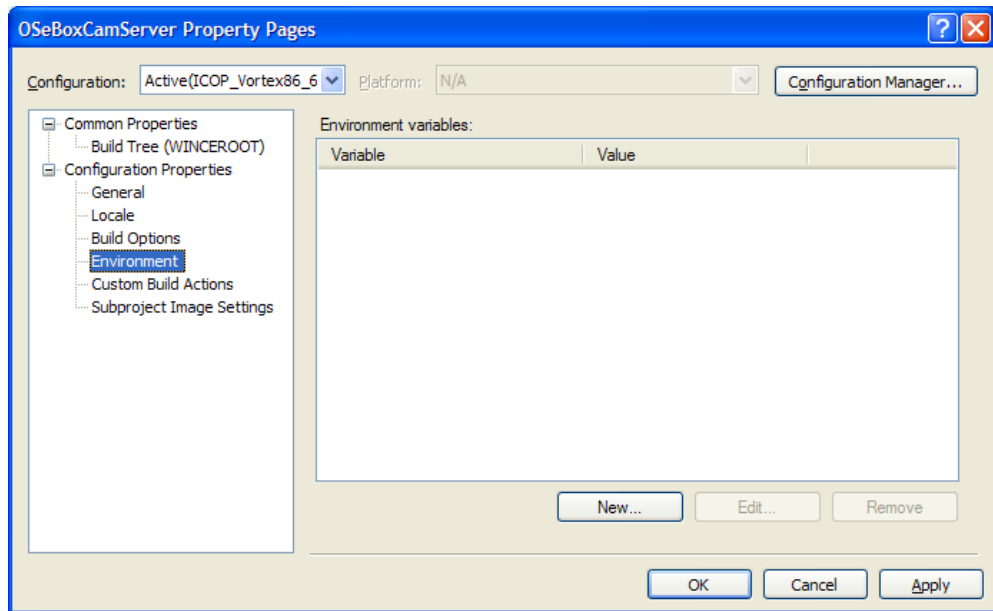

Figure 49. VS 2005 Property Page
21. Click to high-light Environment on the left side of screen as shown in figure 49.